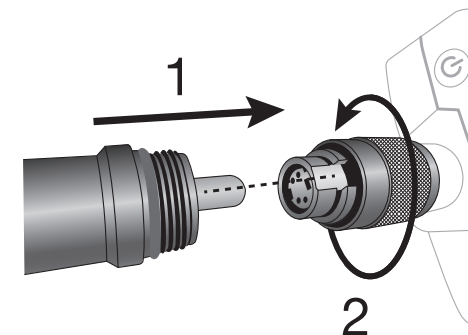

Fig. 4
- Connect camera probe to the connection (A) on the top of the instrument. Refer to Figure 4: carefully align tab on probe connector with channel on instrument connector and push fully home. Screw locking ring until tight against probe connector.